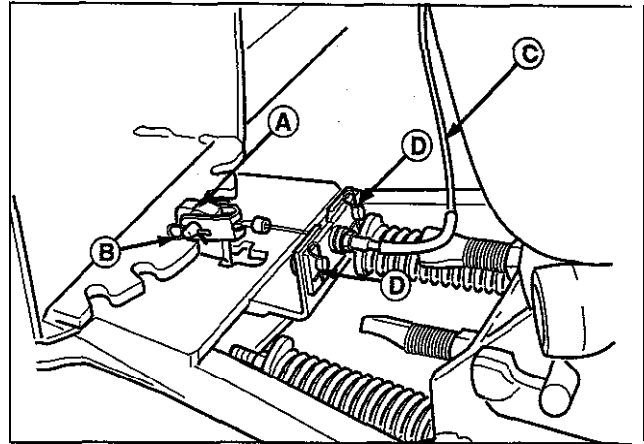

figure 28
4. See figure 28. Remove the hairpin clip and clevis pin (B) securing the angling cable (C) to the locking tab (A).
5. Remove hairpin clips (D, figure 28) attaching the adjustment plate to the sweeper and remove the plate from the sweeper.